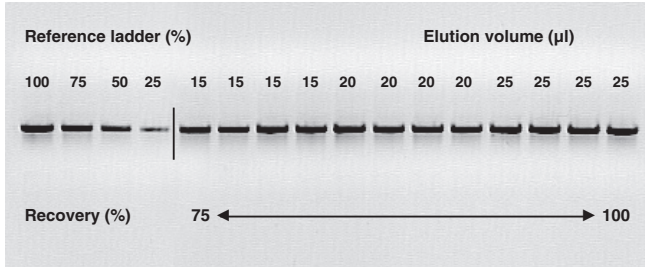

Figure 2: DNA recovery with different elution volumes
- With an elution volume of 15 µl of Buffer NE, a typical recovery of 70-95% is usually obtained for DNA fragments between 50-10,000 bp resulting in highly concentrated eluates (see Table 2, Figure 2). If larger amounts (5-15 µg) of DNA have to be purified (e.g. from PCR* reactions > 100 µl or gel slices > 200 mg), elution with at least 50 µl of Buffer NE is recommended. Primers are not bound.